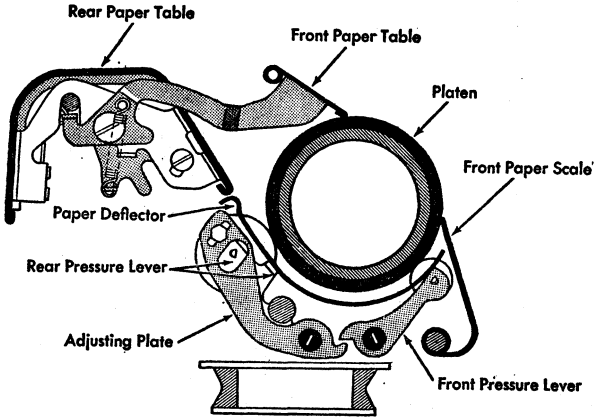

Figure 23. Paper Table and Deflector Adjustments
adjusting plates to the paper table bracket (Figure 23). Check to be sure that the rear paper table is not touching the deflector.
6. FRONT PAPER TABLE. Adjust this to rest evenly on the platen throughout its entire length. This is accomplished by forming the stop lugs which contact the carriage tie rod (Figure 23).
8. SUPPORT LUGS. Form the lugs on the rear pressure levers so that there is a clearance of .007" to .030" (one to four IBM cards) between the paper deflector and the platen. Card strips can be inserted at the ends of the deflector and between feed rolls to accurately check the clearance between the paper deflector and platen (Figure 23).